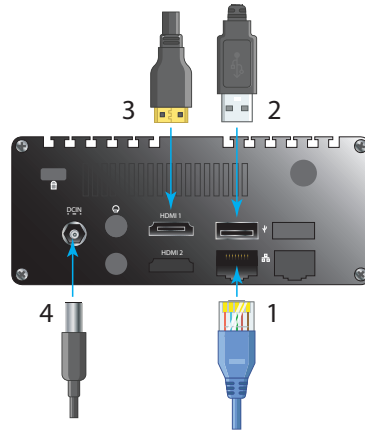

Fig. 3.6
7. Connect the cables (reference Fig. 3.6 for each step):